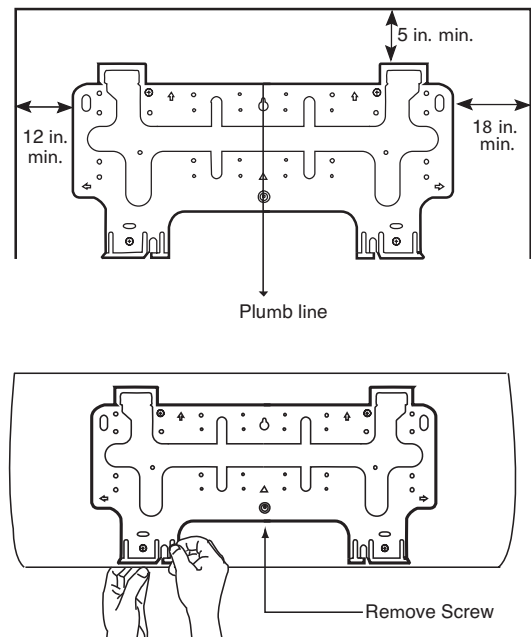
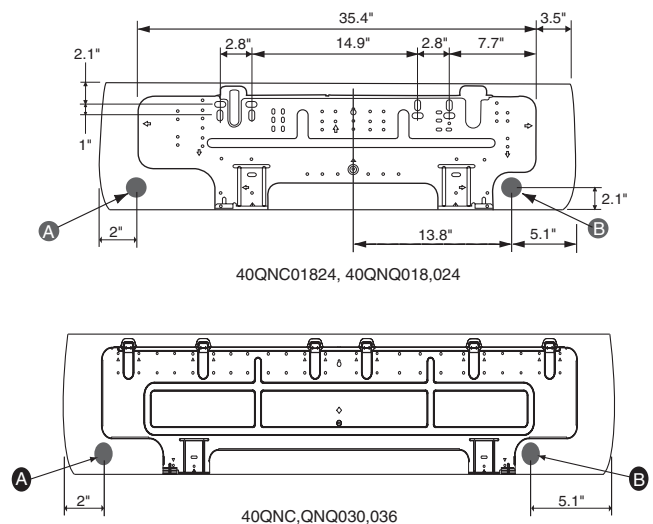
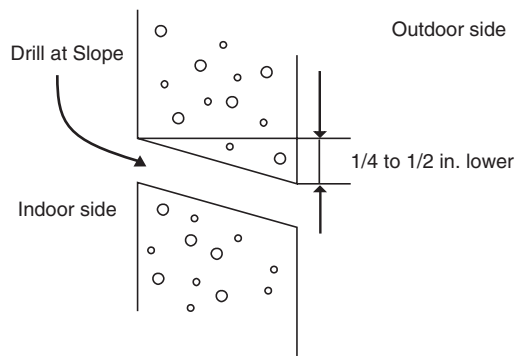

Fig. 5 — Installing the Wall Bracket
Fig. 6 — Wall Bracket Dimensions
Fig. 7 — Placement of Connection Piping
The indoor units are mounted on the wall with a wall hanging bracket. Position the wall hanging bracket so that it is flush with the wall. See Fig. 5 for service clearances. See Fig. 6 for wall bracket dimensions.
3. Install the wall hanging bracket so that it is level. Use a plumb line if necessary. See Fig. 5.
REAR PIPING 6 Route the piping behind the indoor unit so that the piping is concealed by the unit. For rear piping installation, drill a 2½ in. diameter hole in the wall at point A or B in Fig. 6. Drill the hole at a slope so that the outside end is lower (¼ in. to ½ in.) than the inside end to ensure optimal drainage. Refer to Fig. 7. Pass the pipe through the hole.